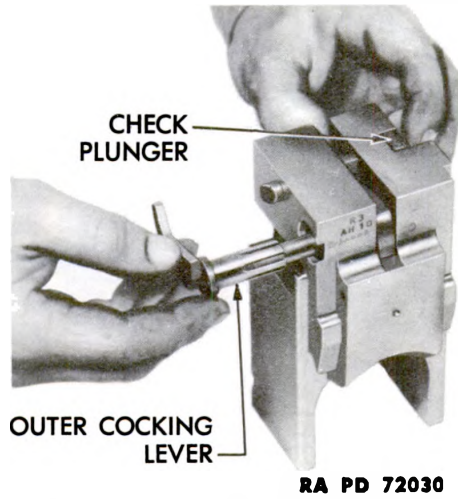
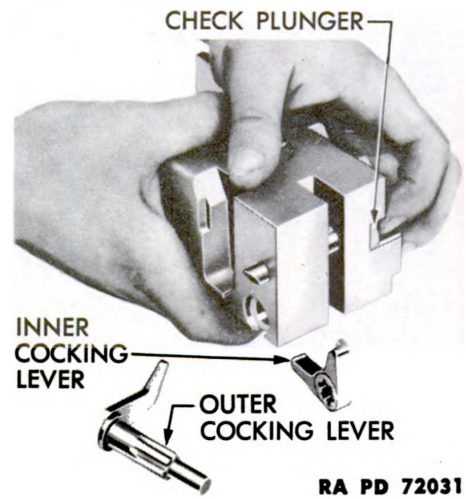
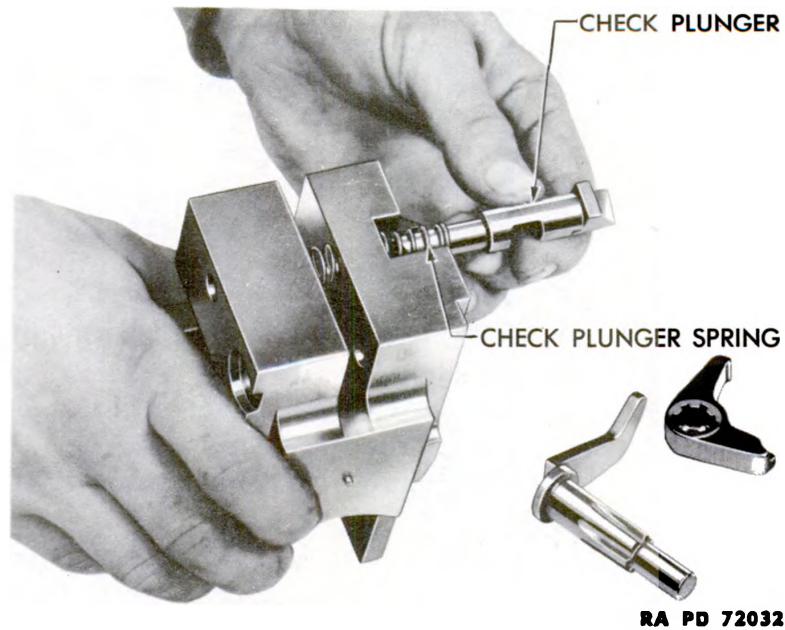

Figure 138 – Outer Cocking Lever – Withdrawal
Figure 139 – Inner Cocking Lever – Removal
Figure 140 – Check Plunger and Spring – Removal
(1) Press the check plunger inwardly and withdraw the outer cocking lever (fig. 138). Press the check plunger, turn the breechblock so that the front face is downward, and shake out the inner cocking lever (fig. 139). Withdraw the check plunger and check plunger spring (fig. 140).